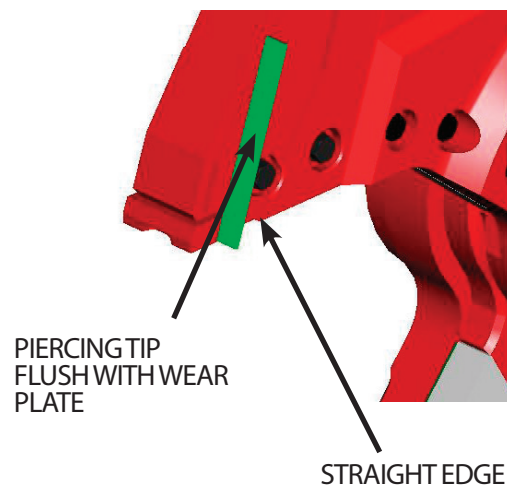

FIGURE 5-27
2. Now do the same on the other side of the upper shear. The tip should be flush with the front wear plate (see Figure 5-27). If there is a gap, this area needs to be built up.